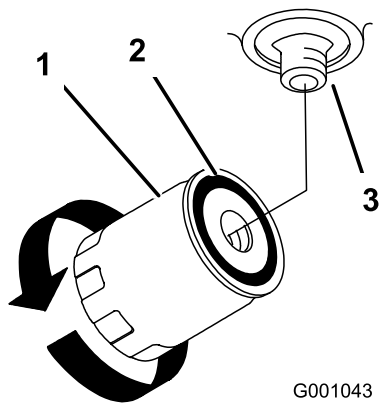

Figure 52
4. Apply a thin coat to the rubber gasket on the replacement filter (Figure 52).
6. Fill the hydraulic tank with hydraulic fluid until the fluid overflows the filter and then turn the oil filter clockwise until the rubber gasket contacts the filter adapter, then tighten the filter an additional 1/2 turn (Figure 52).